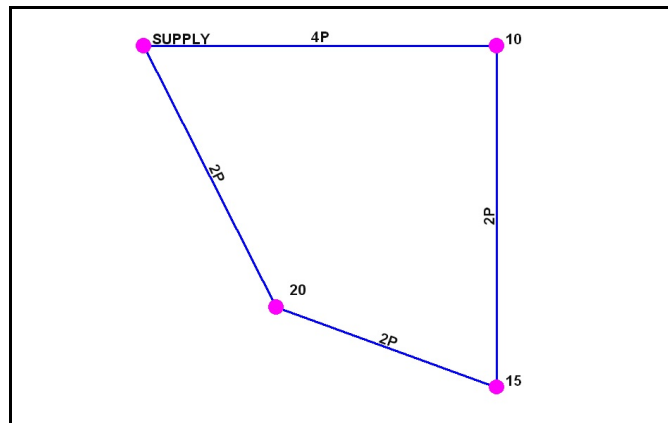

Figure 2
- The Pipe Data screen will be displayed. The default data is acceptable. Select the *Close* command button to continue. After entering the last pipe, the example model should look similar to Figure 2.